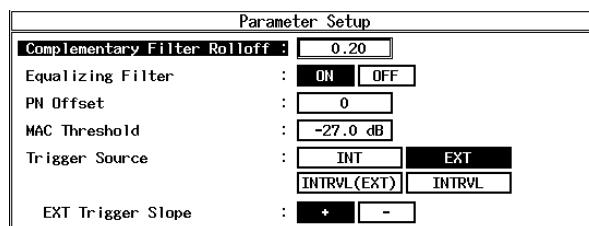

Figure 6-3 Measurement Parameters for Code Domain (RF Input)
7. On the R3267 Series, set the measurement parameters as shown in Figure 6-3.